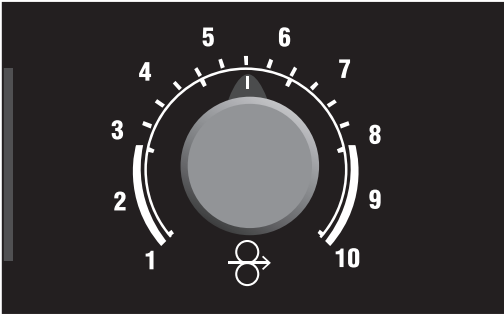

FIG. 7
8.2 MIG WIRE SPEED ADJUSTMENT – FIG. 7